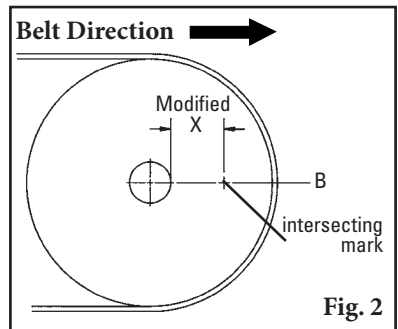

Fig. 2
4. Mark X dimension. Subtract the above dimension (Step 2) from the selected X dimension to establish the modified X dimension. With this new X dimension measure horizontally from the front of the pulley shaft forward on Line B and mark on the chute (Fig. 2).